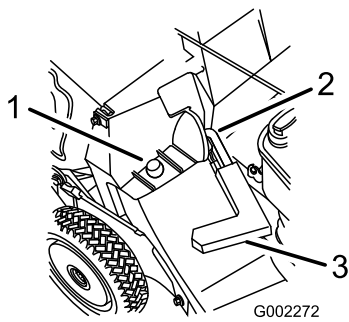

Figure 19
2. Ensure that the discharge door handle is fully forward and that the pin is engaged in the catch (Figure 19).
- Slide the hole in the bag frame onto the retaining post on the discharge tunnel (Figure 19).
- Raise the discharge door handle and move it forward to engage the pin with the catch (Figure 19).